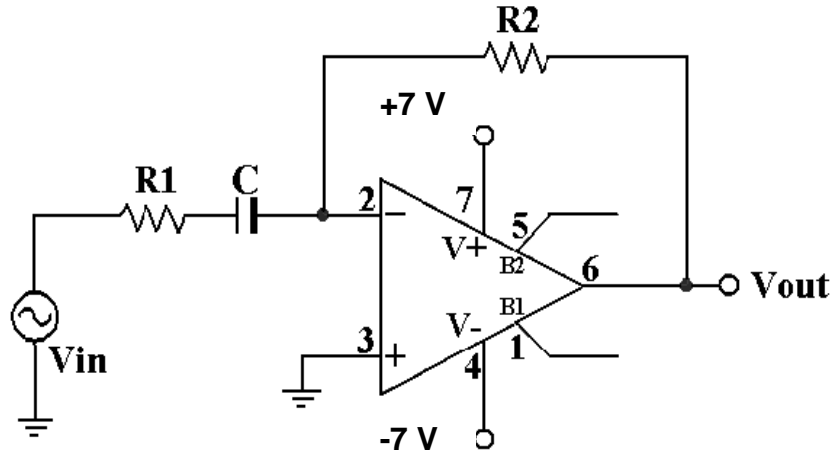

Fig 4. First order high pass filter (pseudo-differentiator) circuit
The output is proportional to the derivative (s term), and the output voltage increases monotonically as the frequency increases. Fig. 4 shows the circuit configuration for a commonly used pseudo-differentiator or high pass filter.
4. For the first order high-pass filter shown in Fig. 4 with power supplies ± 7 V, and assuming the Opamp is ideal, derive the time-domain equation of the output in terms of the input. Show that the circuit performs the function of a differentiator.